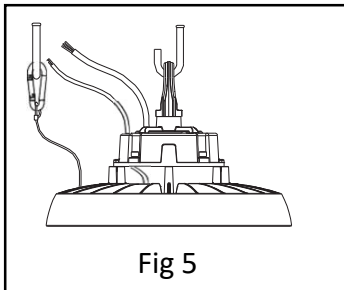

Fig 5
6. Hang the fixture onto a hook. Attach the supplied safety cable to a secure structure. *See Fig 5.*